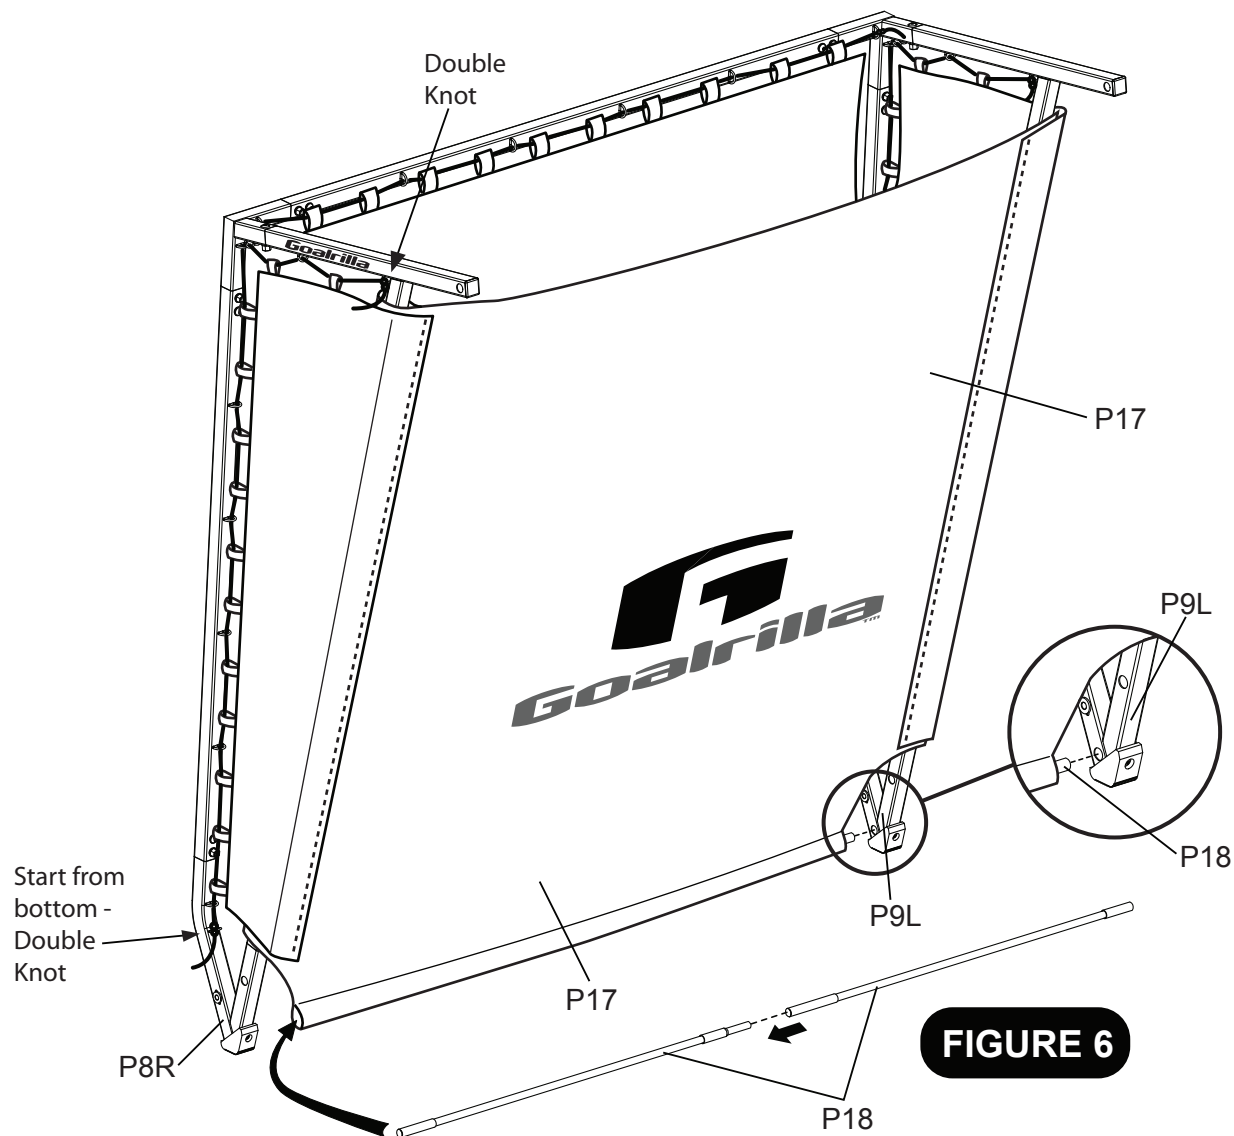

FIGURE 6
- 1 Snap together two pieces **P18** Fiberglass Rod. Slide Rod through bottom sleeve of **P17** Net and into the bottom side hole of **P9L**. Carefully "Bow" the rod and install other end into bottom side hole of **P8R** as shown in **FIGURE 6**.
- 2 Next, attach one **P20** Side Net Cord with a double knot onto bottom D-Ring of **P8R** as shown in **FIGURE 6**. Fold back side net portion of **P17** Net. Next, carefully weave **P20** Side Net Cord up through all loops and D-Rings as shown in **FIGURE 6A**. Pull **P20** Cord tight and tie off using a double knot at top end D-Ring as shown in **FIGURE 6B**. Repeat procedure for other side to attach side net.